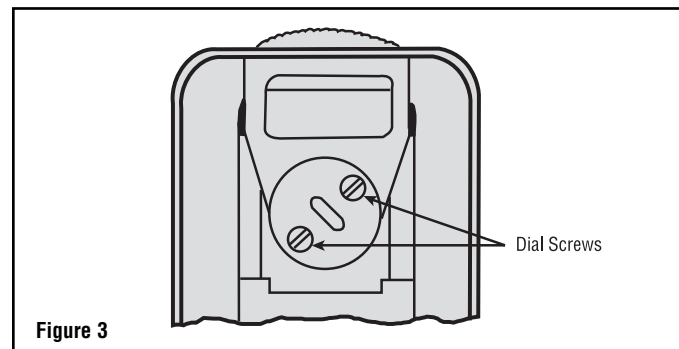

Figure 3
5. On back of thermostat, loosen two dial screws (Figure 3). Carefully turn the dial only to correct temperature setting as indicated by thermometer. Be sure the thermostat shaft is not moved during this operation.